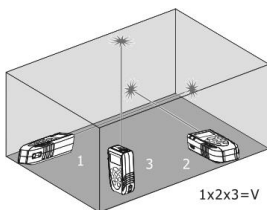

Fig. 6: Example of volume measurement
3. Press the  key to perform the first measurement (length) of the surface (see Fig. 6). The corresponding value appears on the first partial display. The symbol "" appears on the display with side "1" flashing
4. Press the  key again to perform the second measurement (width) of the surface (see Fig. 6). The corresponding value appears on the second partial display. The value of the corresponding area is shown in the resulting display. The symbol "" appears on the display with side "2"
5. Press the  key again to perform the third measurement (height) (see Fig. 6). The total value of volume is shown in the main resulting display